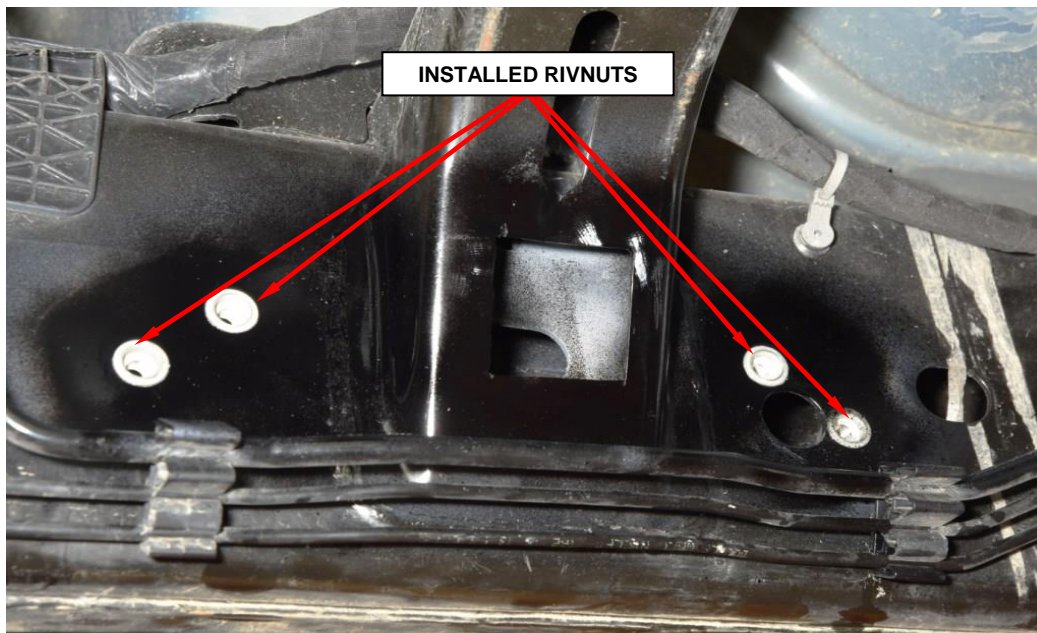

Figure 21 – Rivnuts
46. Using a 25/64” (9.9 mm) transfer punch mark the remaining three holes, then remove the bracket and drill out the holes using the same procedure as the initial and install the rivnuts (Figure 21).